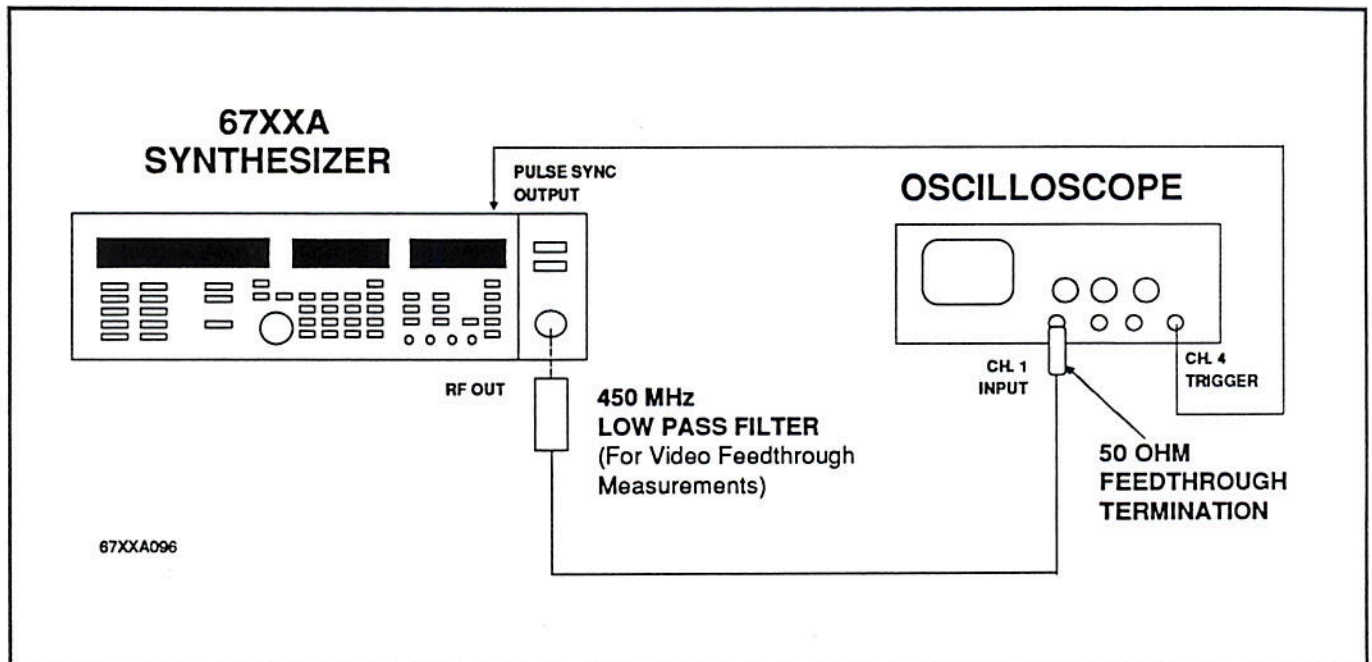

Figure 2-14. Equipment Setup for Pulse Modulation Test: Video Feedthrough
1. Connect the equipment as shown in Figure 2-14.